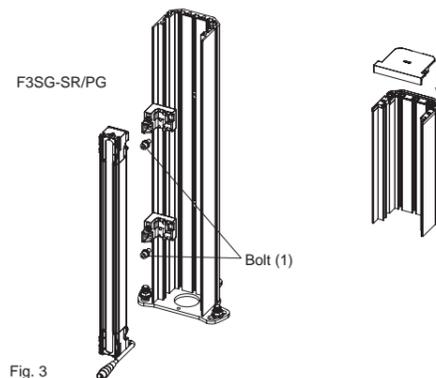

Fig. 3
- Mount the F3SG-SR/PG with the dedicated Brackets to the mounting position with the Nuts (1) and the included Bolts (1). For the procedure of mounting the F3SG-SR/PG, refer to the F3SG-SR/PG User's Manual. After mounting the F3SG-SR/PG, attach the Cap to the Floor mounting column. (Fig. 3)